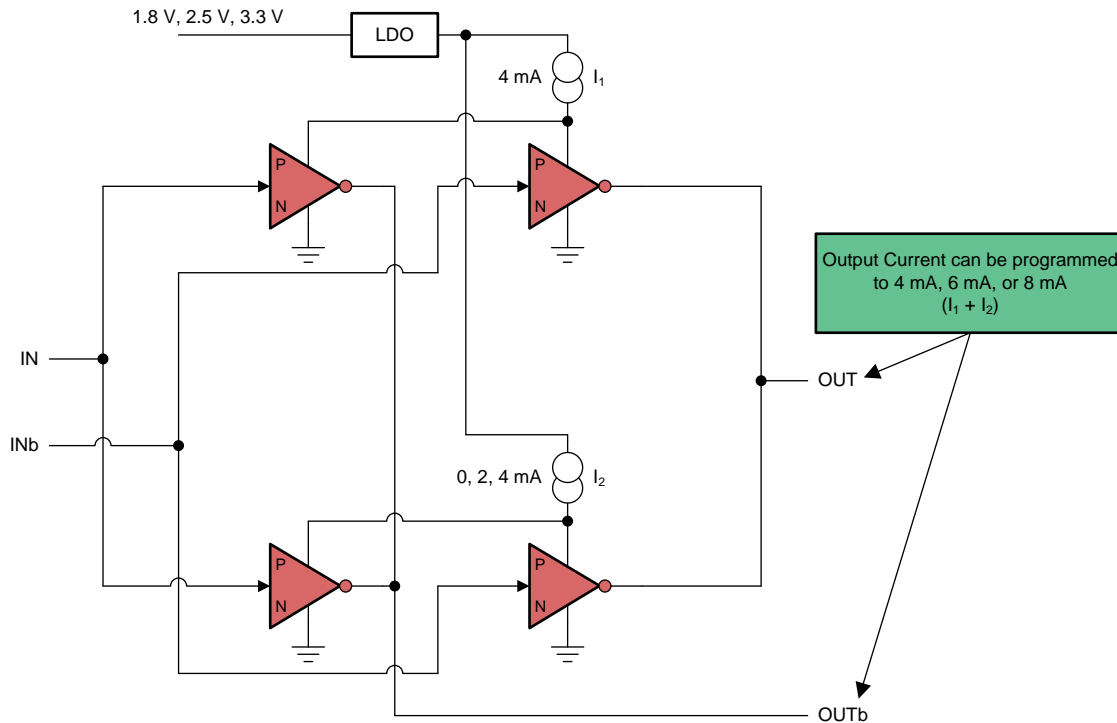

Figure 62. Structure of AC-LVDS, AC-CML, and AC-LVPECL Output Stage
The AC-LVDS, AC-CML, and AC-LVPECL output structure is given in Figure 62 where the tail currents can be programmed to either 4 mA, 6 mA, or 8 mA to generate output voltage swings that are compatible with LVDS, CML or LVPECL, respectively. Since this output structure is GND referenced, the output supplies can be operated from 1.8 V, 2.5 V or 3.3 V and offer lower power dissipation compared to traditional LVDS, CML, or LVPECL structures without any impact on jitter performance or other AC or DC specifications. Interfacing to LVDS, CML or LVPECL receivers are done with just an external AC-coupling capacitor for each output. No source termination is needed since the on-chip termination is automatically enabled when selecting AC-LVDS, AC-CML, or AC-LVPECL for good impedance matching to 50 Ω interconnects.
3. The latency is deterministic and its variation is no more than 1 VCO clock cycle and an example scenario is illustrated in Figure 62.